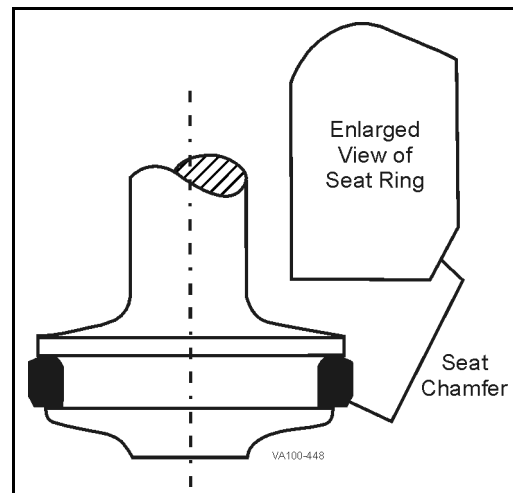

Figure 3 - Seat Chamfer Position
7. Observe correct seat chamfer position (Figure 3), place ring on stem groove and use thumbs to carefully work ring into groove. **Do not stretch or roll ring.**